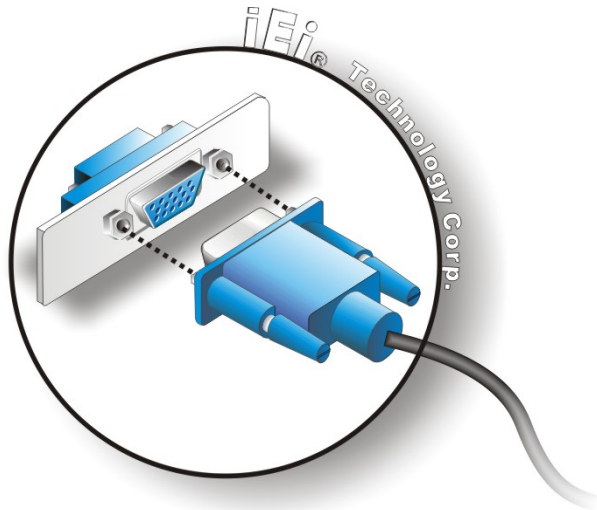

Figure 3-41: VGA Connector
Step 3: **Insert the VGA connector.** Once the connectors are properly aligned with the insert the male connector from the VGA screen into the female connector on the PPC-51xxA-H61. See **Figure 3-41**.